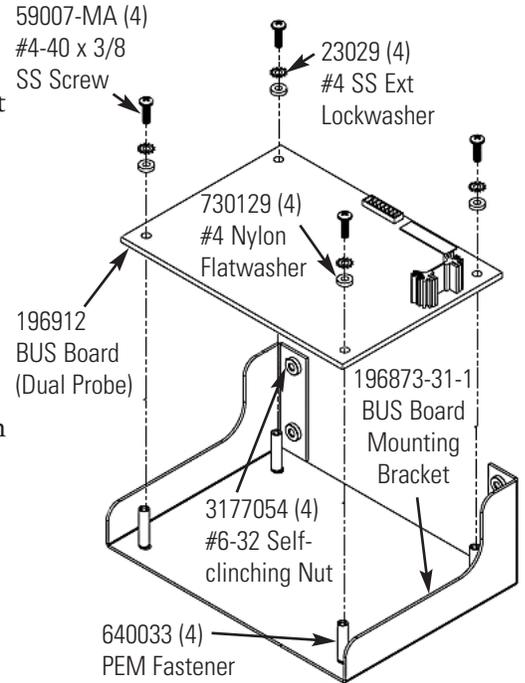

Figure 14. Board to Bracket
- Install the BUS control board onto the bracket supplied. Mount the bracket above the micro board with screws. See Figure 14.